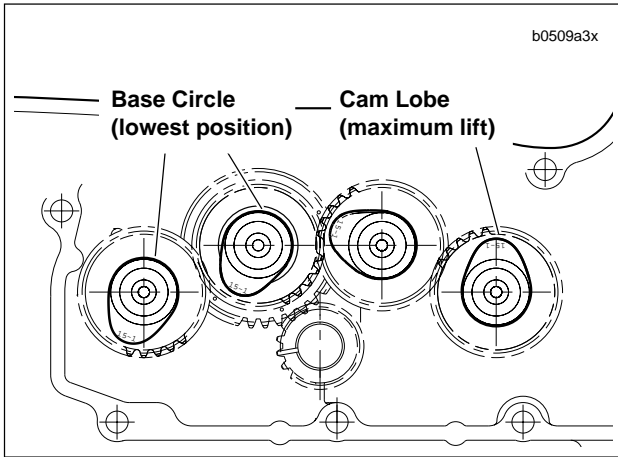

Figure 3-60. Base Circle
1. See Figure 3-60. Rotate engine so that both lifters, from the cylinder being serviced, will be installed on the base circle (1) of the cam.